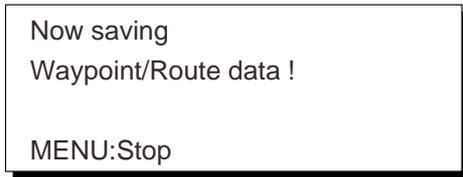

Figure 8-23
- 11) Press the [NU/CU ENT] key. The message shown in Figure 8-23 appears while data is being saved.